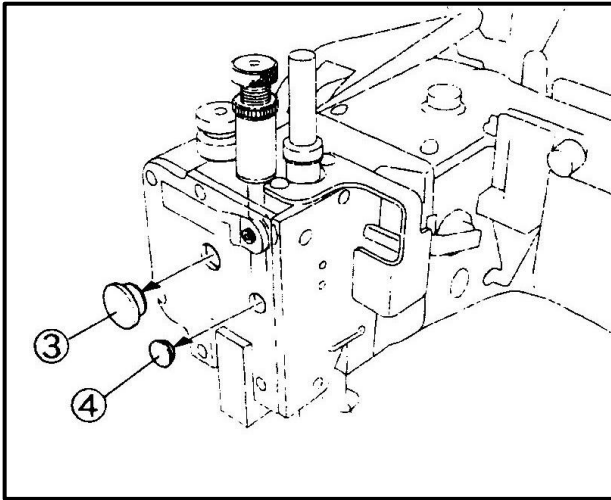

Fig.5
- (1) Remove the seal plugs ③ ④ to check the clearance.(Fig. 5)